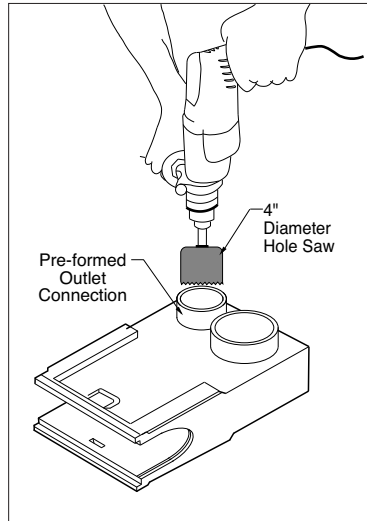

Fig. 3 Sawing hole in outlet connection.
1. Using a 4" Dia. or 6" Dia. hole saw, cut required diameter. See Fig. 3.